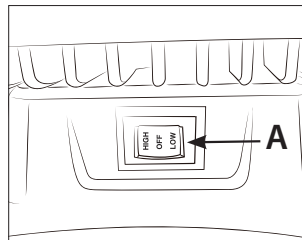

FIG. 4A
2. To turn ON, press the ON/OFF switch to either HIGH or LOW. (Fig 4A & 4B)